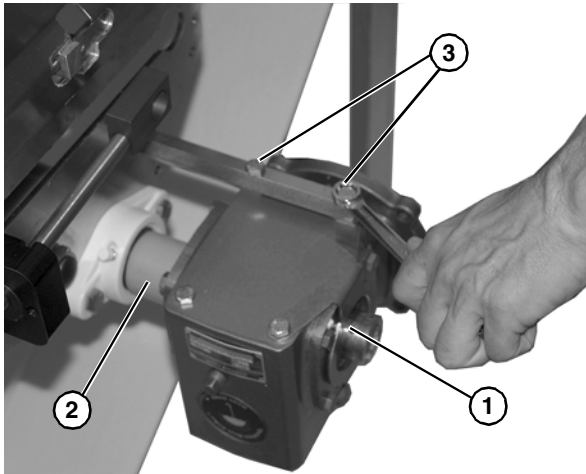

Figure 88
4. Loosen two set screws on outer gearmotor bearing (Figure 88, item 1) and through spacer (Figure 88, item 2) for inner gearmotor bearing.
5. Remove two screws (Figure 88, item 3), and remove gearmotor. (Gearhead shown with motor removed for clarity, motor can remain attached to gearhead.)